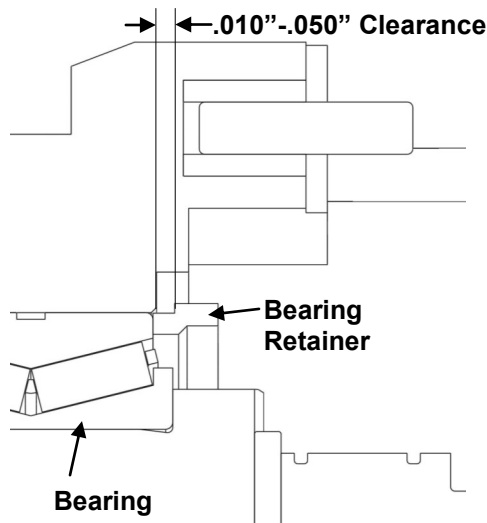
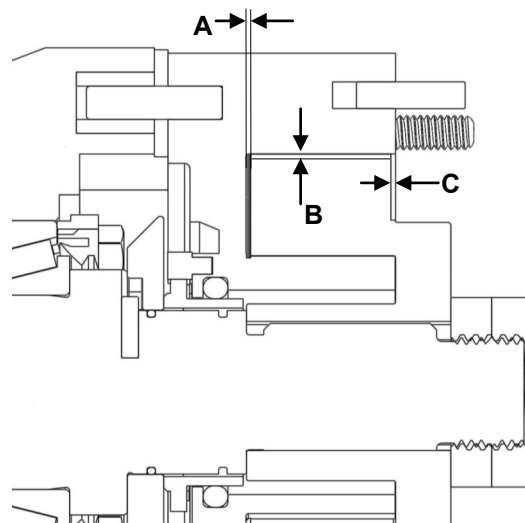

Figure 47: Bearing Retainer Clearance
Figure 48: Important Clearances
5) Once the shafts are pressed into the gear case, install the bearing retainers to hold the shafts in place temporarily (do not install liquid sealant). Ensure there is proper clearance between the retainer and the gear case, as seen in Figure 47. Place the body on the gear case, making sure it is seated correctly. Assemble the rotors into the body and tighten down using the jam nuts. Measure dimensions A, B, and C seen in Figure 48 and refer to Table 8 (page 29) to verify the clearances. If clearances are not correct, the shafts must be removed and the shims will need to be adjusted. If the clearances are correct remove the rotors and body.